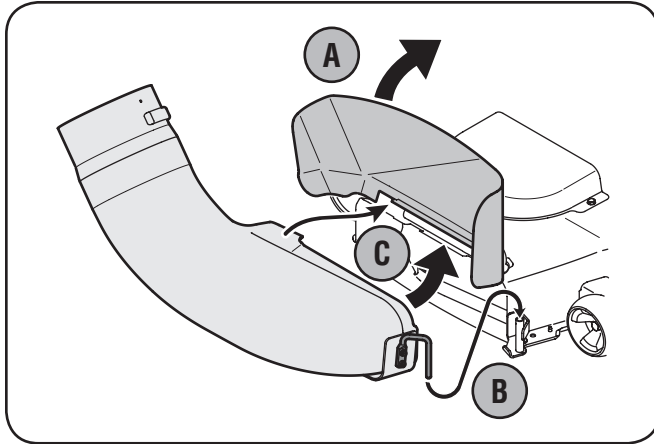

Figure 4-24
3. Raise the chute deflector (A in Figure 4-24) on the deck and hold it while you position the discharge chute over the chute opening.
4. Insert the hinge pin of the discharge chute into the tube on the chute stop bracket. See B in Figure 4-24.
5. Rotate the chute around the deck so that its front edge fits snugly into the deck opening. Lower the chute deflector slowly (C in Figure 4-24).